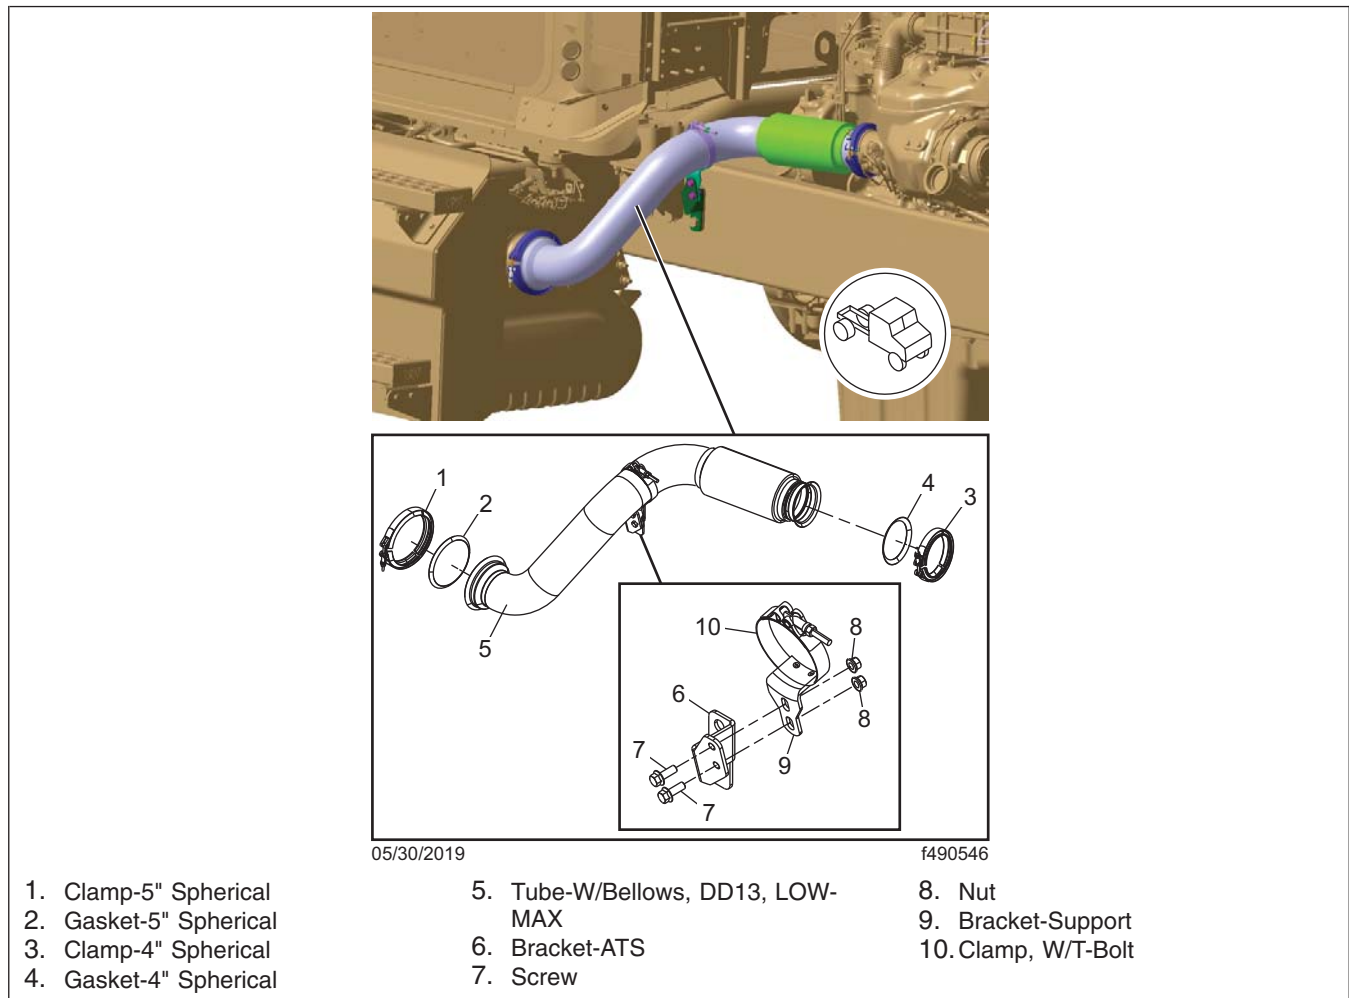

Fig. 1, Bellows Assembly
10. Remove the bellows and ATD inlet pipe as an assembly. See Fig. 1.